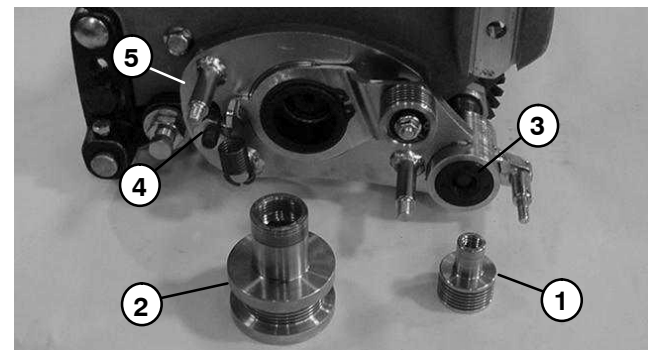

Figure 9
7. Using an allen wrench, remove the driven pulley from the end of the groomer shaft (Fig. 9).
8. Use an allen wrench to remove drive pulley from the cutting reel shaft (Fig. 9).
9. Remove two tapered nuts that secure the groomer RH side plate to the bearing housing and mower side plate (Fig. 9). Remove the groomer RH side plate.
3. Insert groomer shaft into RH side plate bearing and then position side plate to cutting unit frame. Secure with two tapered nuts (Fig. 9). Tighten nuts from 30 to 35 ft-lb (41 to 47 N-m).